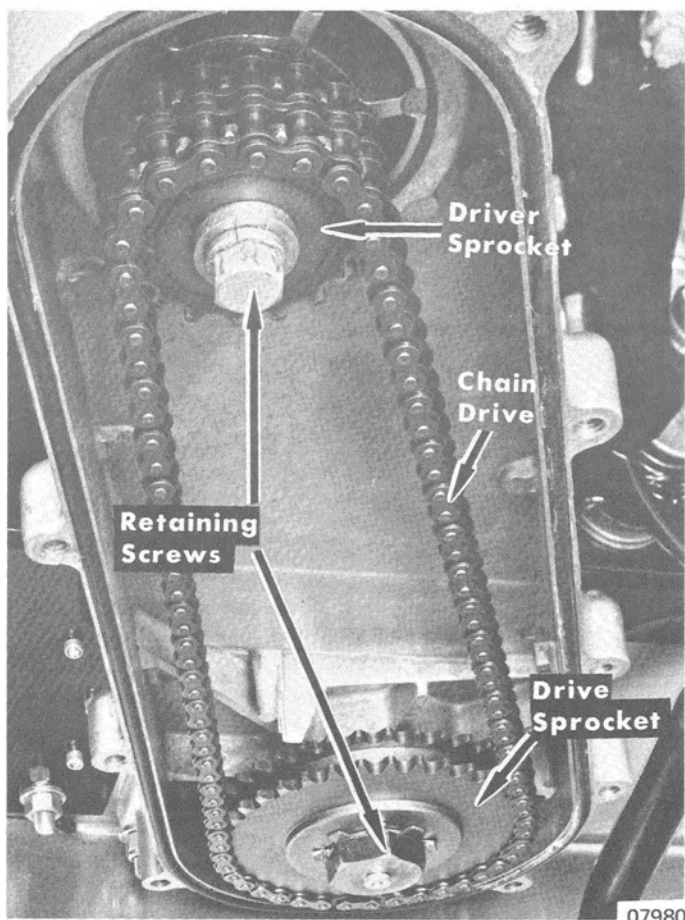

Figure 1. Sprockets and Drive Chain
5. Bend locking tabs on tab washer (located under drive sprocket retaining screw). (Figure 1)
6. Remove drive sprocket and driver sprocket retaining cap screws. (Figure 1)